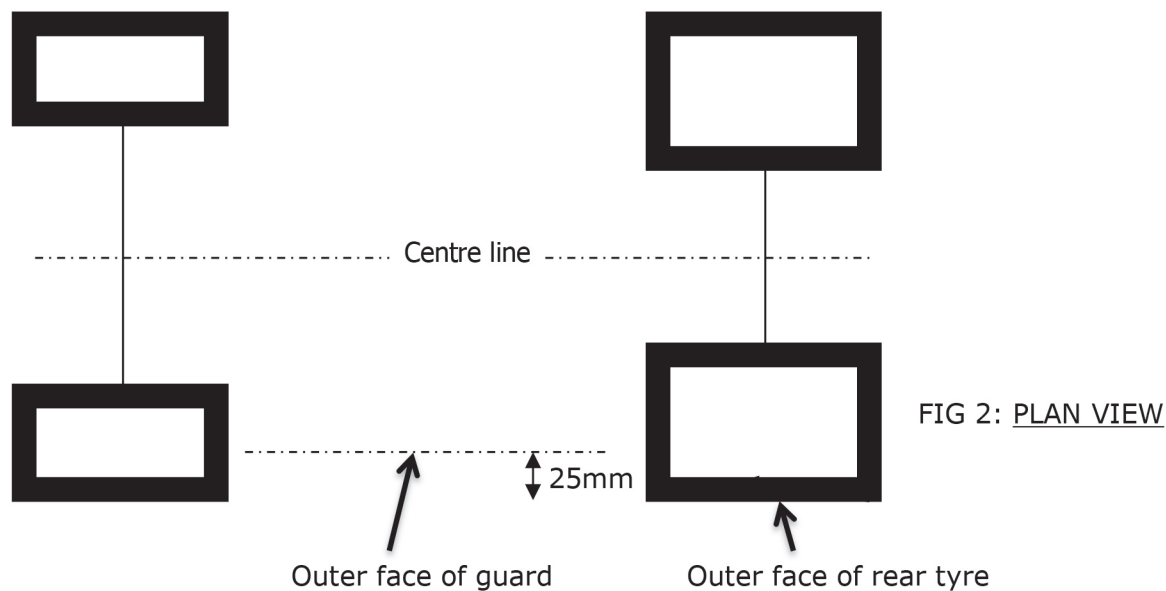

FIG 2: PLAN VIEW
- The outer face of the guards may be inset by no more than 25mm (1 inch) from the outer face of the rear tyres (fig.2 opposite).